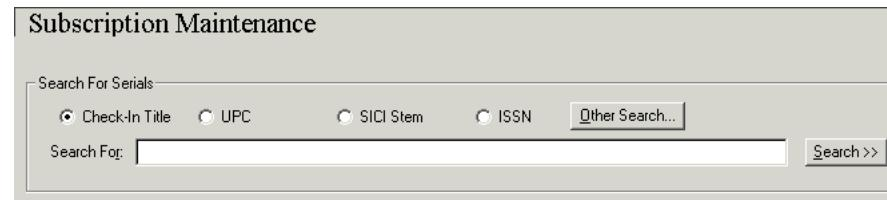

Figure 2-98. Subscription Maintenance search workspace
- The **Subscription Maintenance** button opens the **Subscription Maintenance** search workspace (see Figure 2-98)